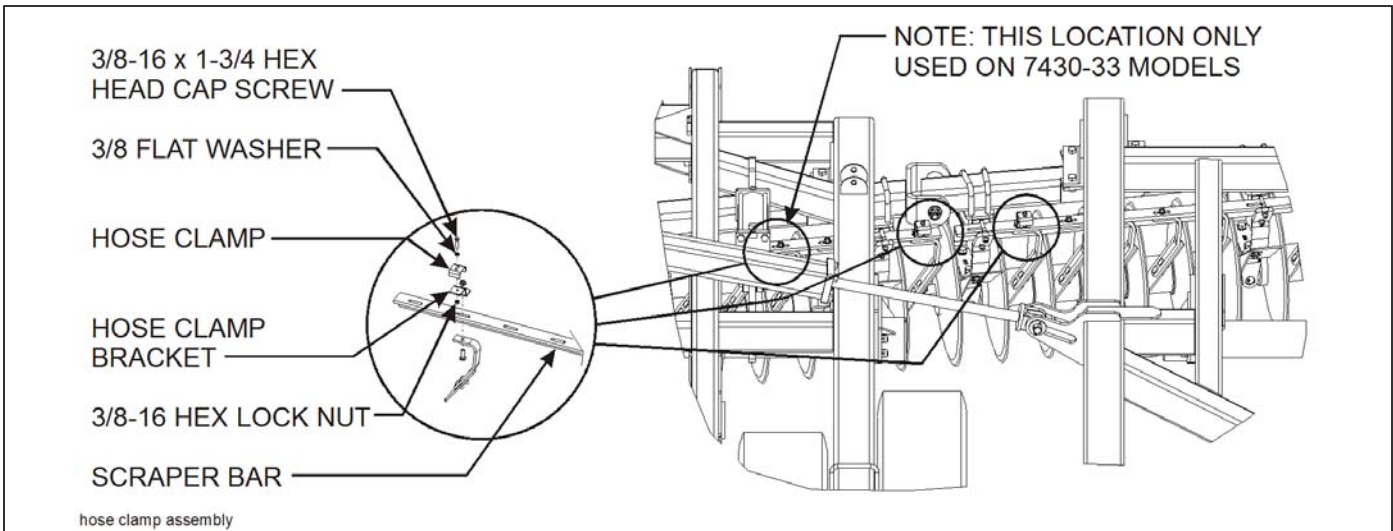

Figure 3-20: Hose Clamp Assembly
7. Attach hose clamp brackets to the scraper bar (**See Figure 3-20.**) On 33' units, attach a hose clamp in the ninth hole from the center of the machine on each side of the front gangs. Secure hoses to the brackets with hose clamps, 3/8-16 x 1-3/4 hex head cap screws, and hex lock nuts.